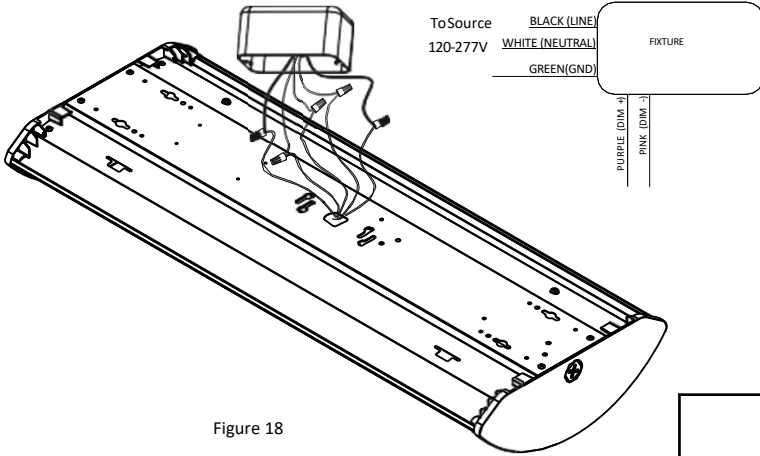

Figure 18
- Make the wire connections Black to Line, White to Neutral and Green to Ground. Use the supplied wire nuts to secure the connections. **See Figure 18.**